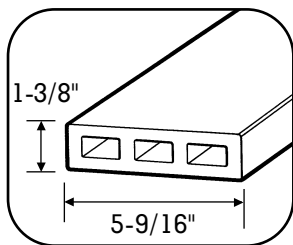

Fig. 26
- Top Rail (13' length; approximately 2.8 lb. per ft.) (Fig. 26)